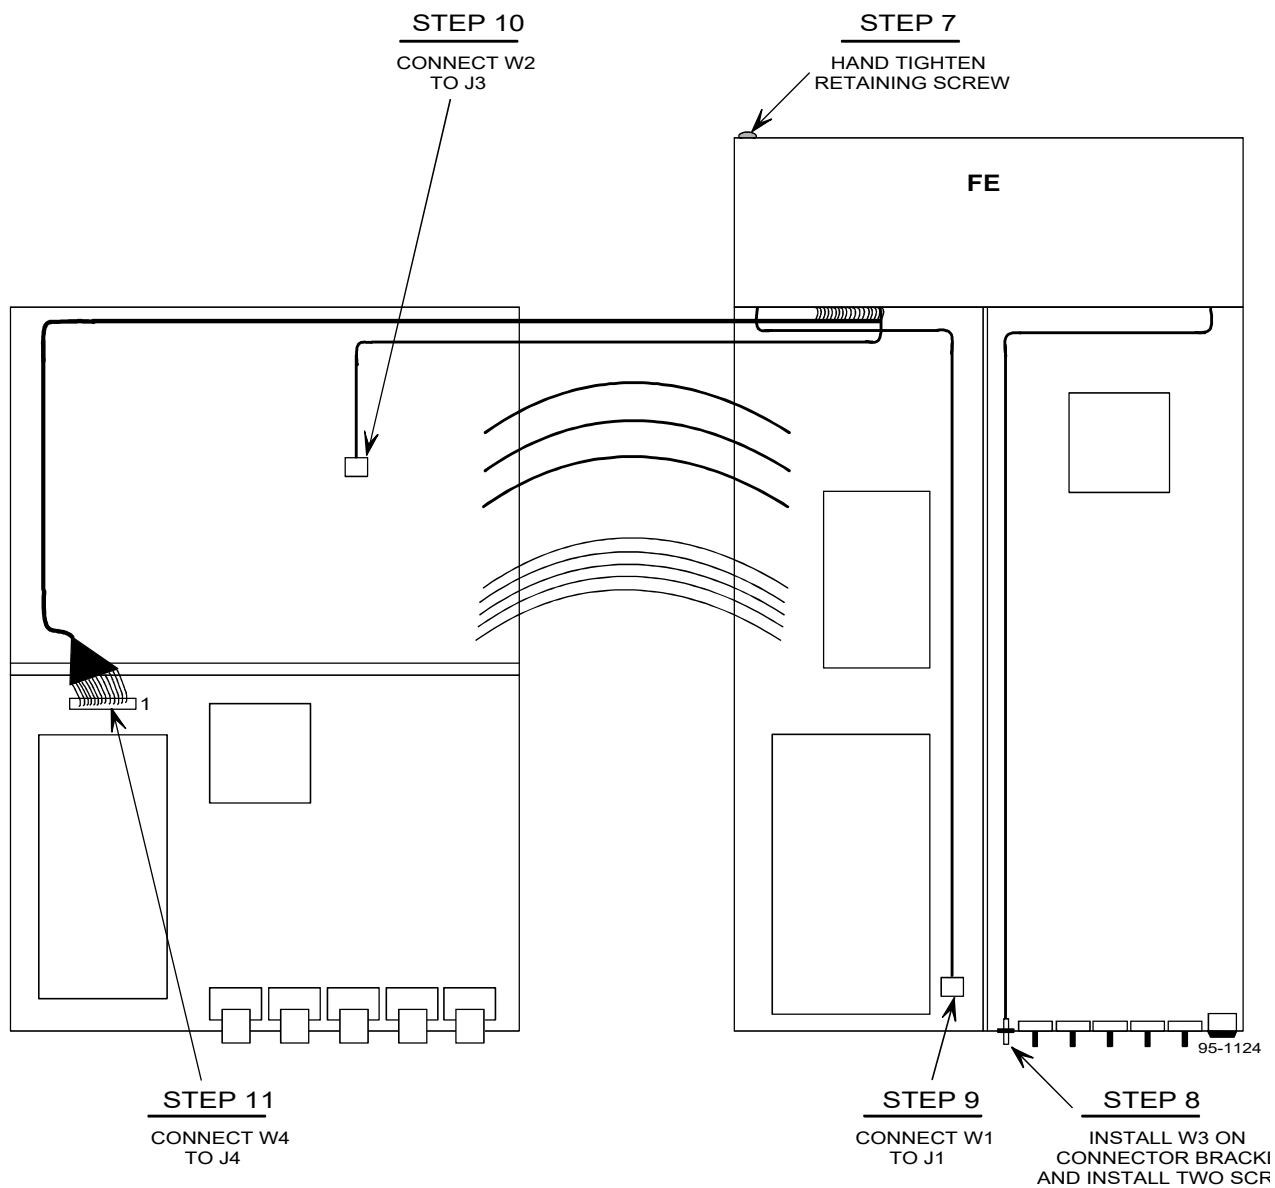

Figure L-3. Installing the FE and Connecting the Cables
7. Referring to **Figure L-3**, align the FE with the rear top half of the Miniceptor and hand tighten the retaining screw of the FE into the Miniceptor's chassis.